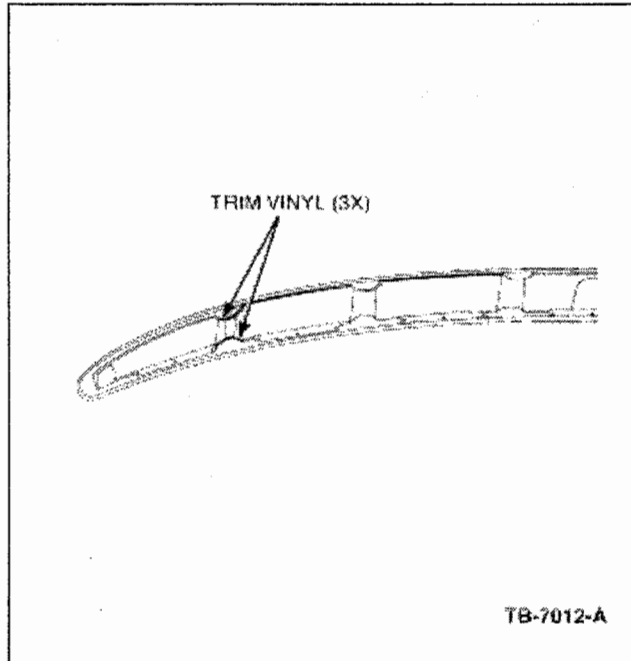

Figure 11 - Article 03-4-6
19. Trim the vinyl material at each defroster duct opening support that has a hole in it so the retainer clips installed in Step 20 will not overlap the vinyl material (Figure 11).